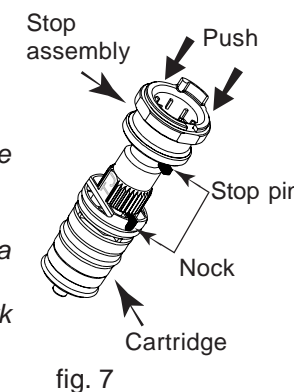

fig. 7
- Install the "stop assembly" home on the cartridge, adjusting the stop pin in the notch (fig. 7).